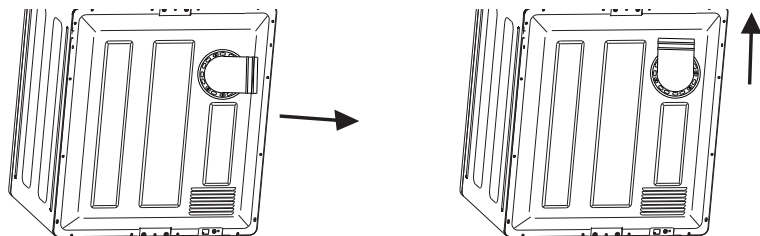

Fig.8
6. To install the exhaust connector, push the exhaust connector into the exhaust vent at the back of the dryer with the exhaust outlet in the direction required, as illustrated (Fig. 8).